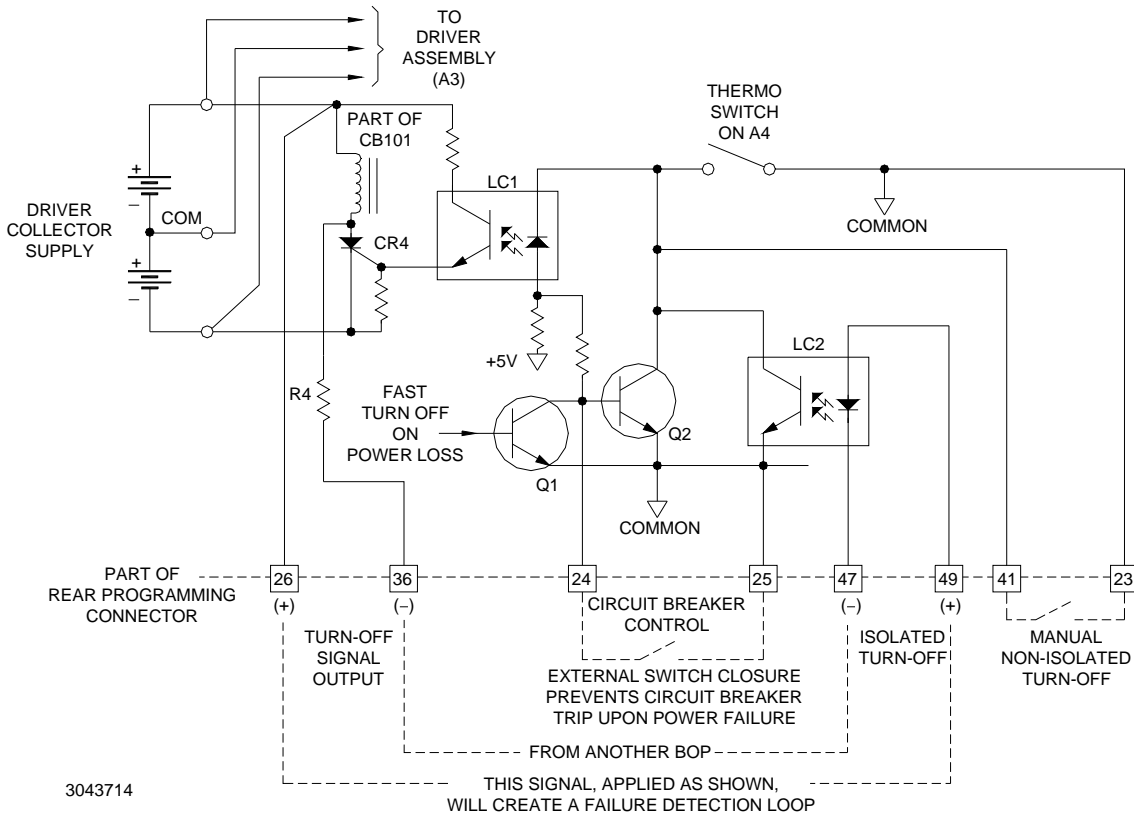

FIGURE 3-24. CIRCUIT BREAKER CONTROL CIRCUIT, SIMPLIFIED DIAGRAM.
The BOP is protected by the dual-coil circuit breaker/ON-OFF switch (CB101) as shown in Figure 3-24. The current sensing coil of CB101 is connected in series with the primary winding of T201, thus detecting overcurrent reflected into the primary circuit and subsequently tripping the circuit breaker. The voltage sensing coil of CB101 is connected in series with an SCR (CR4) across the driver collector supply. If the SCR is triggered on, the voltage sensing coil is energized and trips the circuit breaker. The SCR (CR4) can be triggered in several ways:
- A manual, non-isolated turn-off is provided which, when implemented with an external switch contact as shown in Figure 3-24, will energize the diode in the first optocoupler (LC-1). thus providing the SCR turn-on.